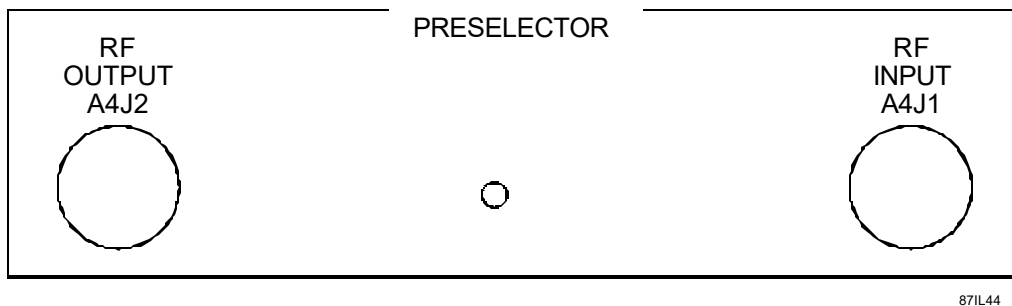

Figure B-5. WJ-8711/PRE Rear Panel Preselector Decal
16. Affix the Rear Panel Preselector Decal (**Figure B-5**) to the WJ-8711 rear panel as shown in **Figure B-2**.